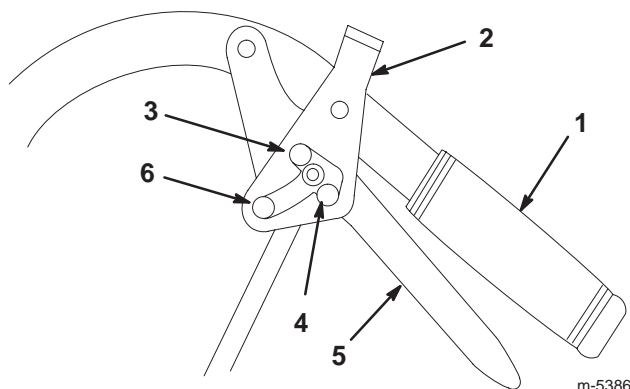

Figure 13
1. Squeeze the drive levers back (Fig. 13).
2. Place your thumbs on the upper part of the locks and move them forward into the **Park** position (Fig. 13).
2. Place your thumbs on the upper part of the locks and move them rearward until they are in the **Drive** position (Fig. 13).
2. Place your thumbs on the upper part of the locks and move them rearward into the **Neutral Lock** position (Fig. 13).
2. Place your thumbs on the upper part of the locks and move them forward until they are in the **Drive** position (Fig. 13).